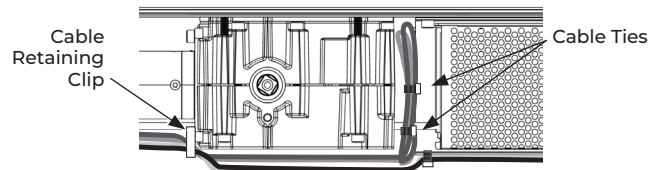

Fig. 18 Left Hand Door, Looking down from top
1. To prevent wire crimping, use the cable ties provided to neatly store loose wiring as shown. The power cabling to the connector board should be cable tied along the operator body. Any loose wire should be stored between the operator body and power supply. (Fig. 18)